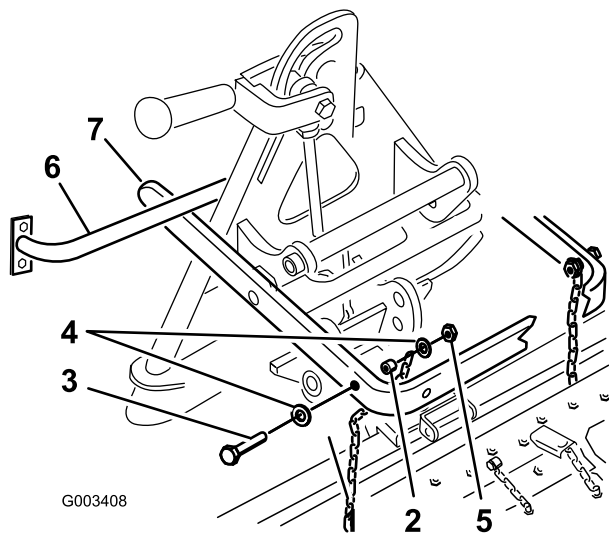

Figure 6
Important: The long arm of the lift arm assembly must be under the traction unit rear frame assembly (Figure 6).
5. Secure the top link of each chain to the inside of the lift arm using a bolt ($3/8 \times 2\text{-}1/2$ inches), 2 washers ($3/8 \times 7/8$ inch), a spacer, and a locknut ($3/8$ inch) (Figure 6).